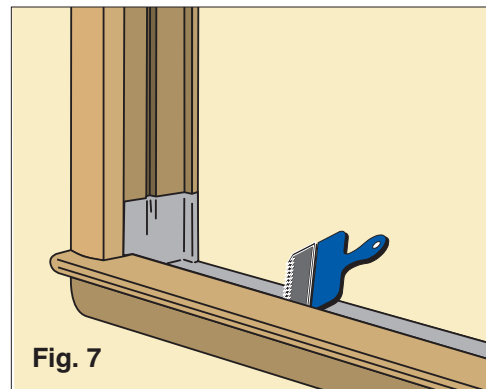

Fig. 7
7. Once the staples are removed, both the upper and lower sash-and the tracks can be removed as a single unit. (Fig 7)
2. After you flash the opening, install the supplied Starter Strip - Sill Angle on the outer sill, 1/8" behind the blind stop. Caulk the inside edge of the stool and outside along sill angle. (Fig. 7) Check Sill slope. Make sure sill angle leg is vertical.